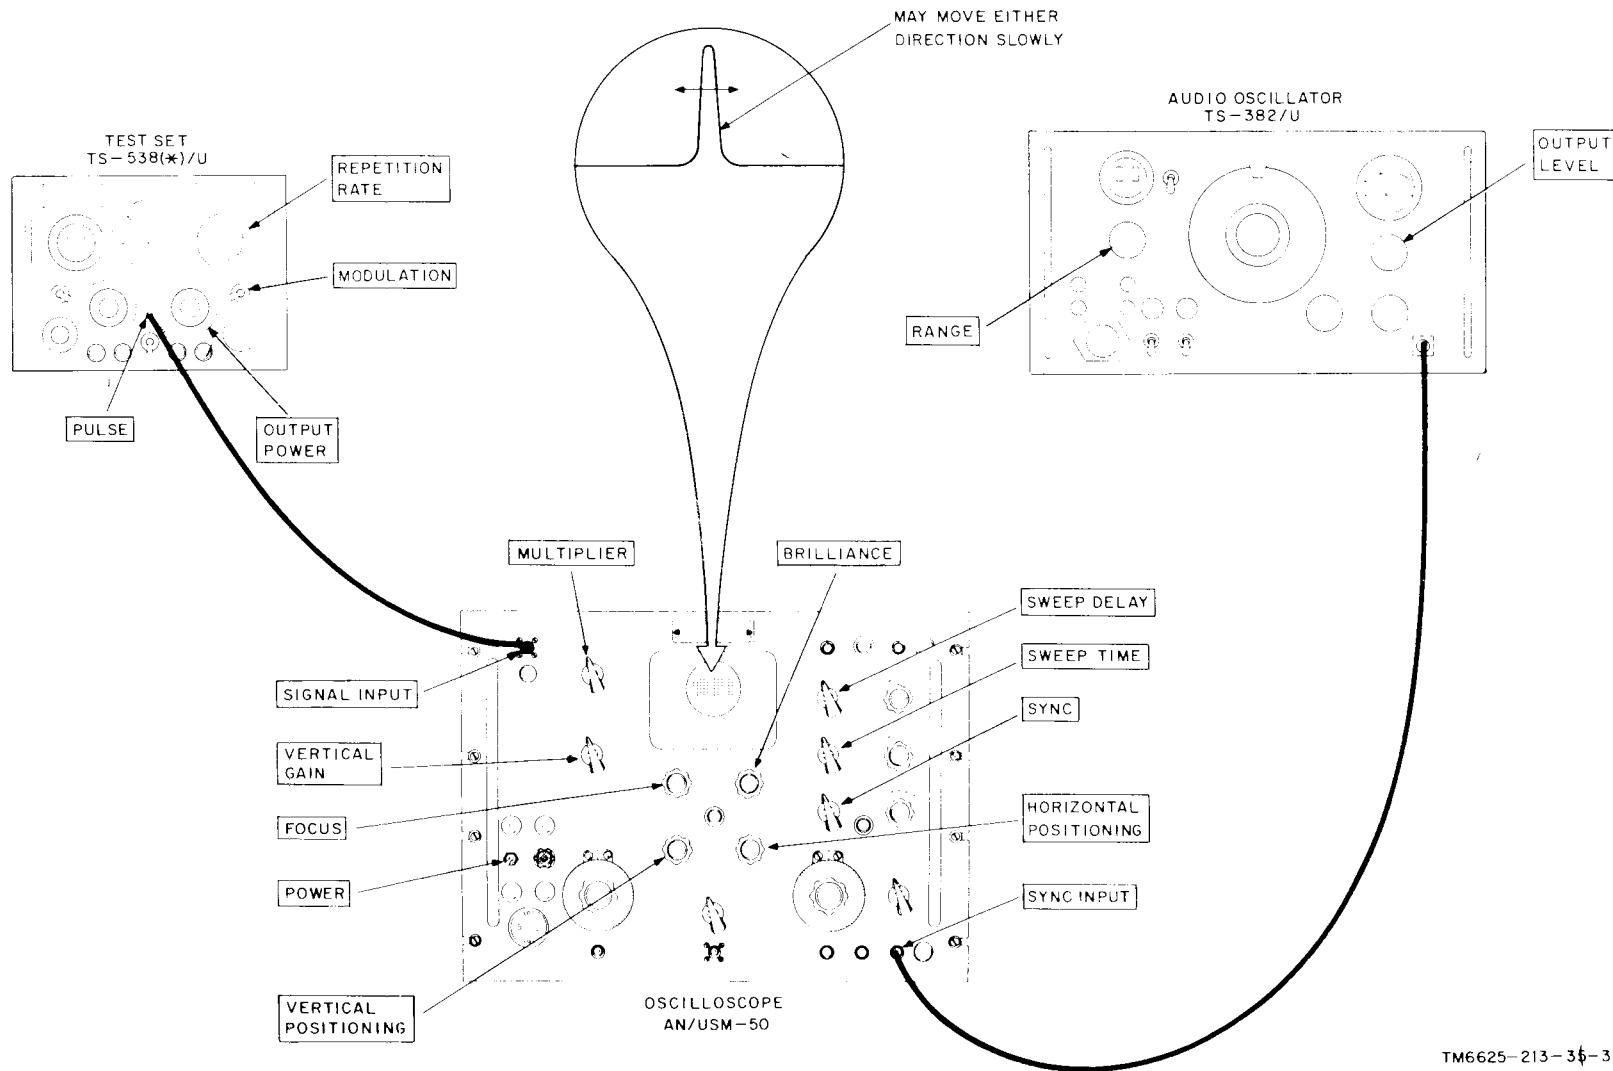

Figure 27. Modulation repetition rate test connections.
- (1) Audio Oscillator TS-382(\*)/U.
- (2) Oscilloscope AN/USM-50(\*)
*b. Test Connections and Conditions.* Connect the equipment as shown in figure 27.